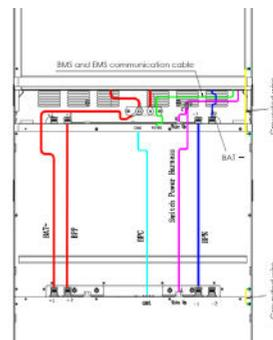

Figure 11
3.2.2.7.System Wiring Perspective (Figure 11)